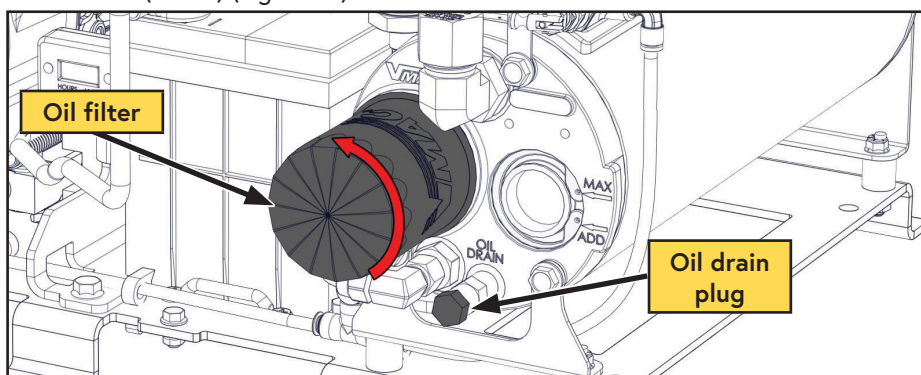

Figure 36 — Compressor oil filter
- ☐ Remove the oil drain plug and drain the oil into a container with a capacity of at least 4 L (1 USG) (Figure 36).
- ☐ Remove the oil filter (Figure 36 on page 56).